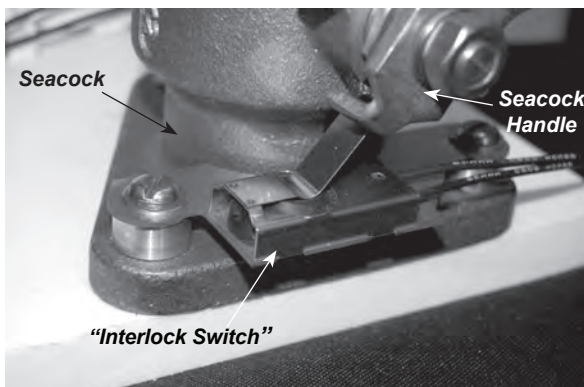

Figure J15: “Interlock Switch” Attached to Seacock
1. The seacock (discharge valve) is located in the engine compartment labeled HEAD DISCHARGE. To open, turn the valve so that the handle is parallel to the flow of the valve. **Note:** The seacock may be fitted with a device called an “Interlock Switch” which prevents the overboard discharge switch from activating the discharge pump should the seacock be in the CLOSED position. See Figure J15. Should the pump not activate please check to see that the seacock is in the OPEN position. Additionally, the waste deck plate cover must be tightened securely for the overboard discharge system to operate properly.